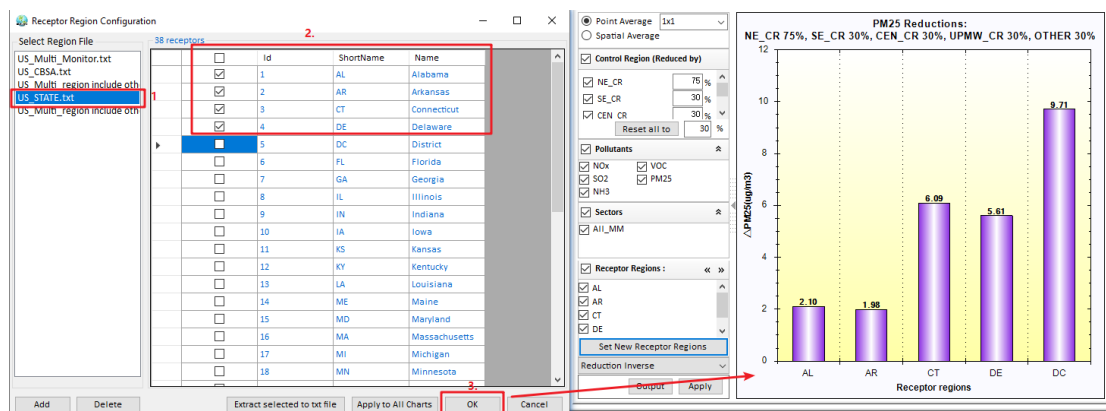
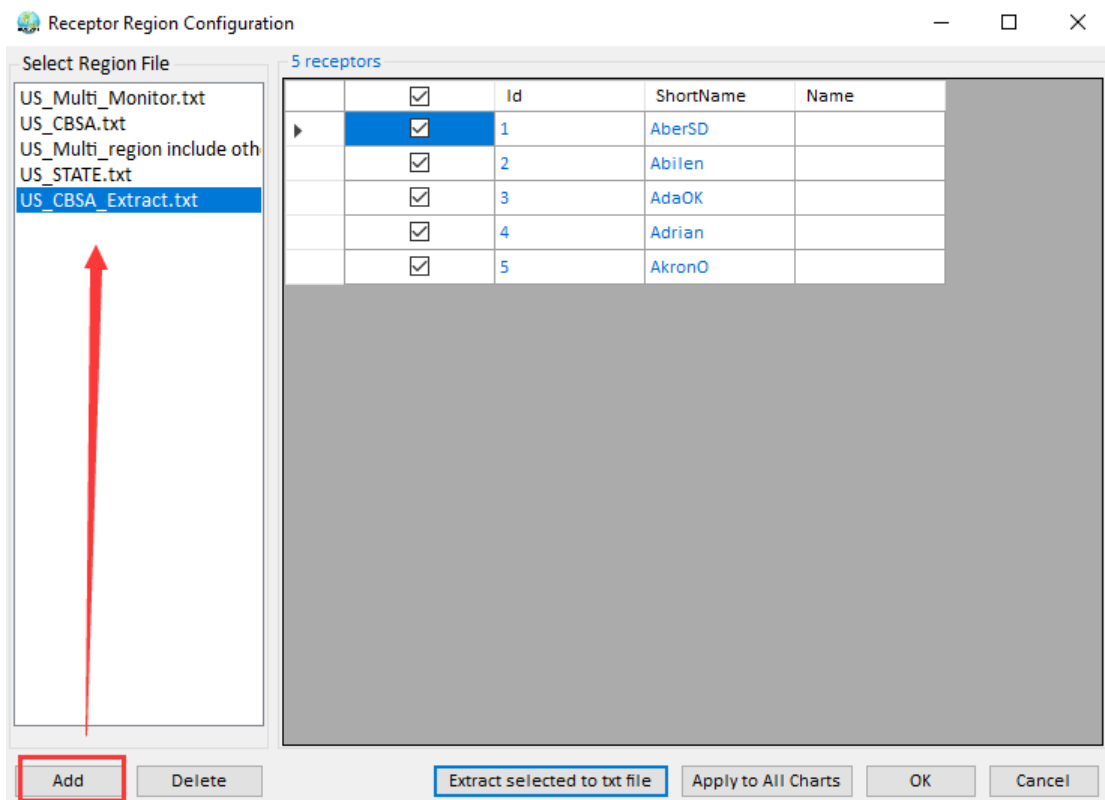
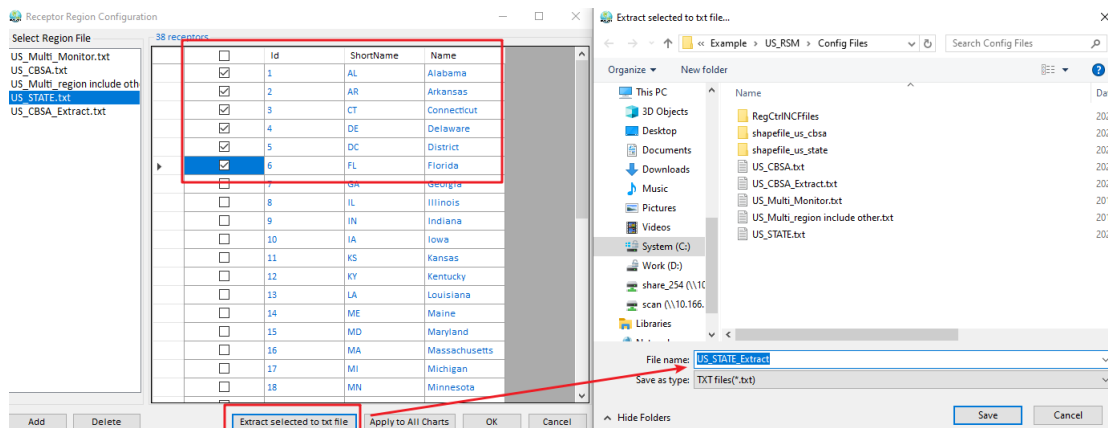

Fig. 62 Set up new receptors regions
Fig. 63 Load a receptor region file
Fig. 64 Extract selected regions to text file.
**Receptor Regions:** This option lists all receptor regions that come from the “Receptor Region File” in “Visualization Analysis Option” module by default.Under this option, it also provides a option for users to set up new receptor regions. For example, users can click the “Set New Receptor Regions” to open a receptor region configuration window to select desired states or CBSA regions by selecting the default file “US\_STATE.txt” or “US\_CBSA.txt” and then checking the regions of interest on the right panel, and then click “OK” or “Apply to All Charts” to show the corresponding response results of new receptor regions (Fig. 62).Note that “OK” button only takes effect in current chart, but “Apply to All Charts” button applies to all charts under Receptor Analysis module. Users can also add new receptor regions by importing receptor region files in the specified format according to their needs (Fig. 63). Besides, users can extract the desired regions for further study (Fig. 64).